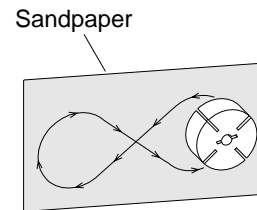

Figure 30 - Sanding Rotor
14. Place fine grade sandpaper (600 grit) on flat surface. Sand rotor lightly in "figure 8" motion four times (see Figure 30).